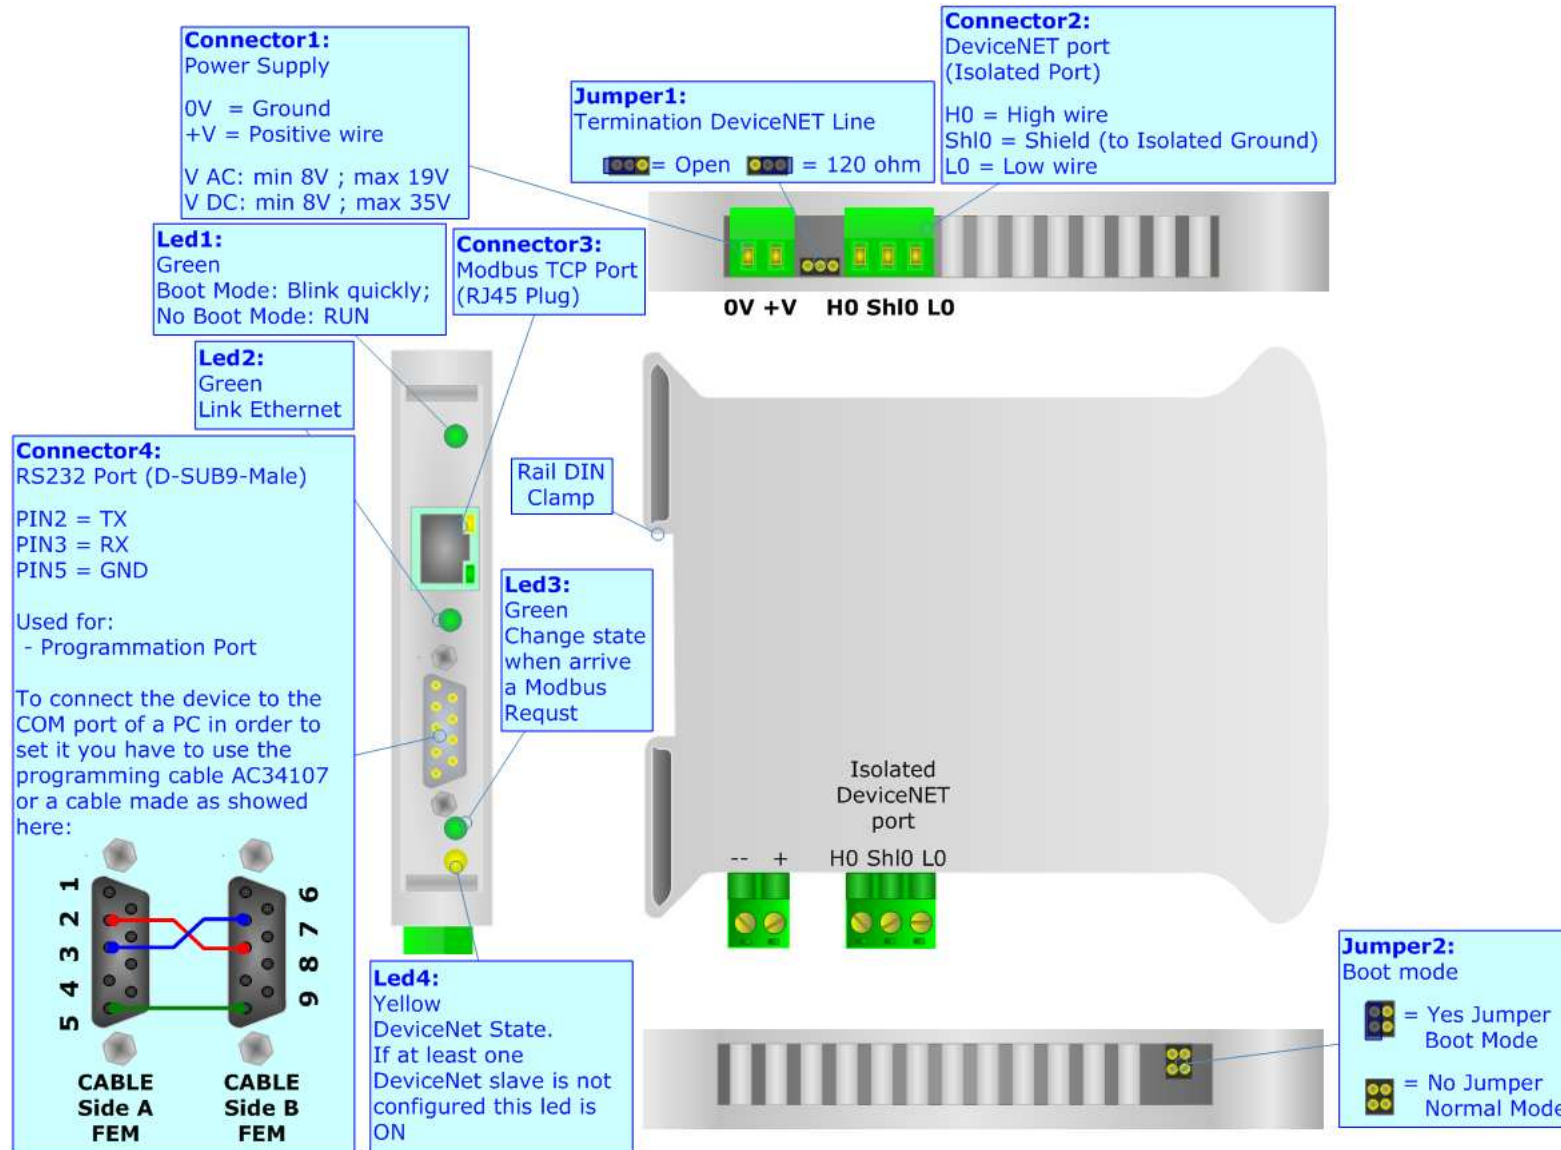
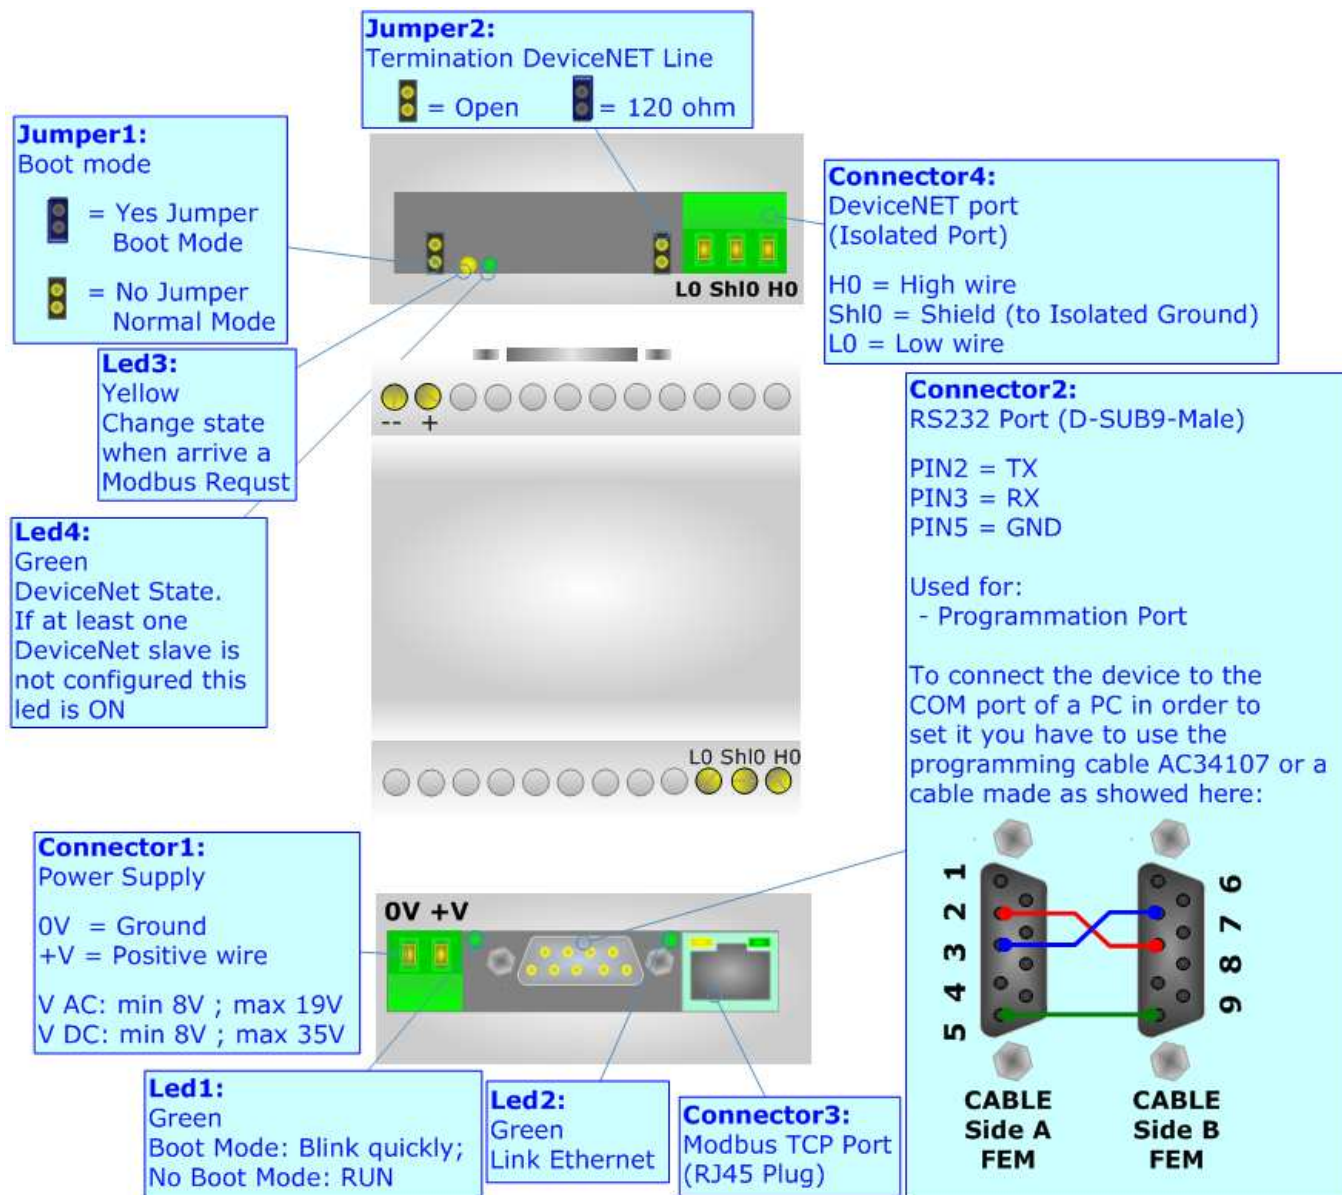

Figure 1: Connection scheme for HD67152-A1
Figure 2: Connection scheme for HD67152-B2
- Insert the Boot Jumper (For more info see Fig. 1 or Fig. 2);
- Check the BOOT Led. It must blink quickly (For more info see Fig. 1 or Fig. 2);